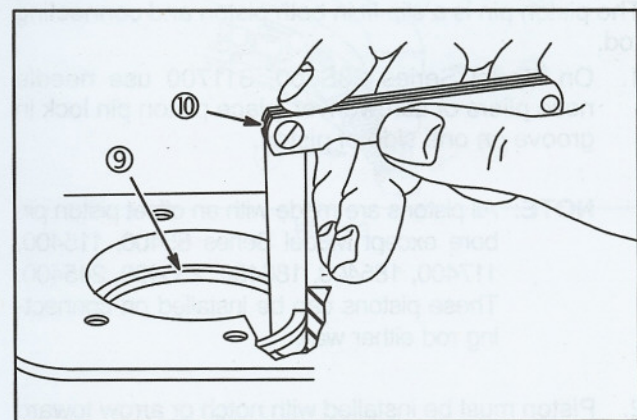

Fig. 7
2. Insert old rings (9) one at a time one inch down into the cylinder, Fig. 7.
3. Check end gap with feeler gauge (10).